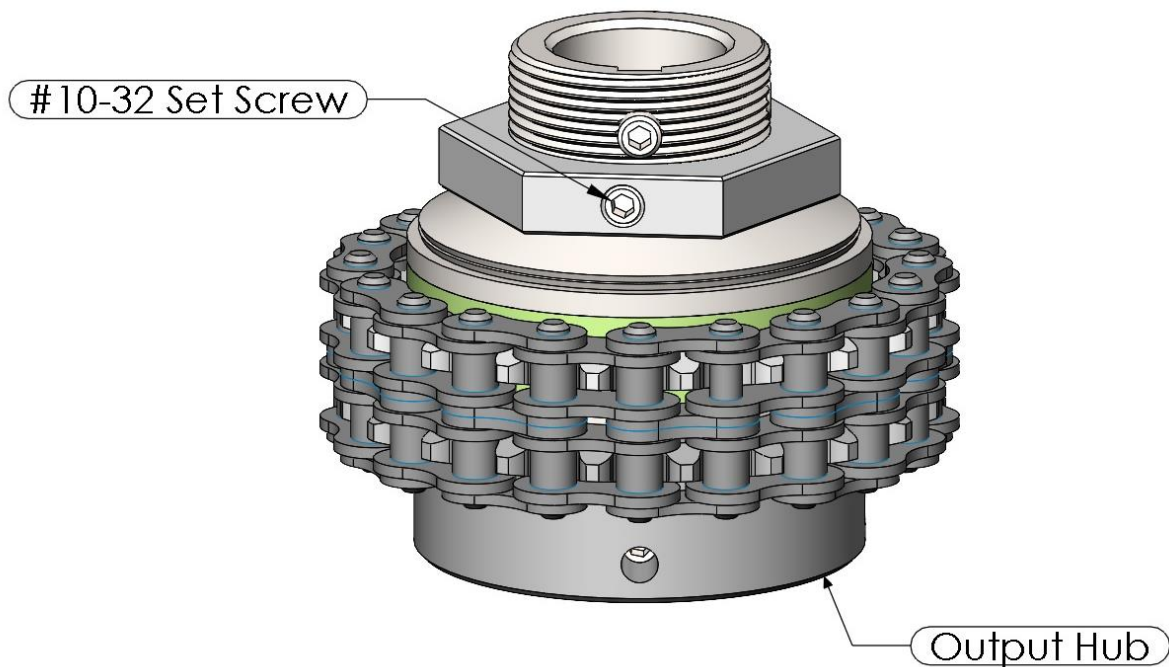

Figure 2
3. Loosen set screw labeled in figure 2.